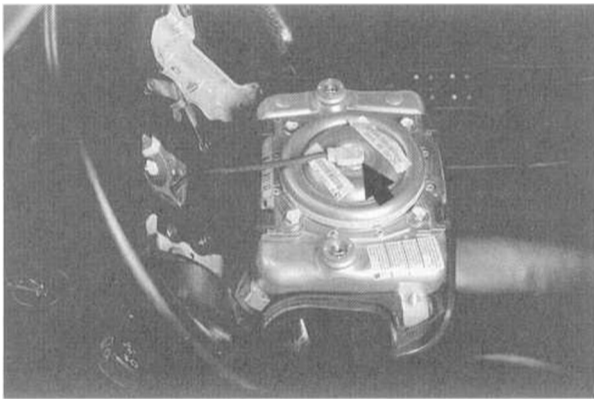

Fig. 4. Driver's side airbag unit harness connector (arrow).
5. Carefully lift airbag unit off steering wheel and disconnect orange harness connector from rear of airbag unit. Store airbag in safe place. See Fig. 4.